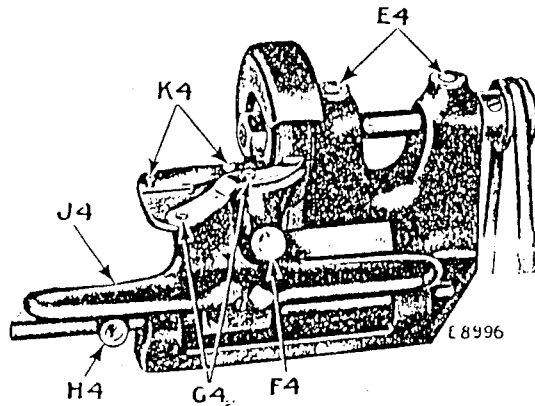

Fig. 23. Knife Grinder 234746
To Sharpen Lower Knife 234719, place it in position on the two rear pins (K4, Fig. 23). Loosen the lock screw (H4, Fig. 23) and move the knife carrier (J4, Fig. 23) until the left edge of the blade is in line with the left edge of the grinding wheel. Then move the lock screw (H4) to the right until it bears against the casting and securely tighten the lock screw (H4). (The setting of the lock screw (H4) is important, as it prevents the body of the lower knife from being ground. After the lock screw has been once properly set, it is not necessary to change its position when sharpening either knife.) Turn the adjusting screw (F4, Fig. 23) in or out until the knife bears lightly against the grinding wheel. Start the grinder and with the forefinger of the left hand pressing lightly on the knife between the pins, sharpen the full length of the cutting edge of the knife by moving the knife carrier (J4) from side to side. The least possible amount ground off is usually sufficient.
To Sharpen Upper Knife 234720, place it in position on the two pins (G4, Fig. 23). Set the adjusting screw (F4) and sharpen the blade as instructed above for the lower knife.
**Lubrication:** Oil should be regularly applied to the two ball oilers (E4, Fig. 23).